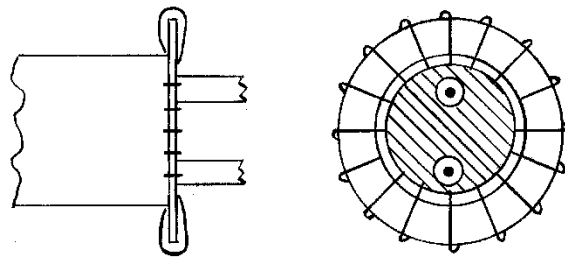

Fig. 2 Connection of the shield braid to the washer
5. Pass the opened shield around the washer (5). Trim the edges of the shield wires by cutting the ends slightly to obtain a result similar to Fig. 2.